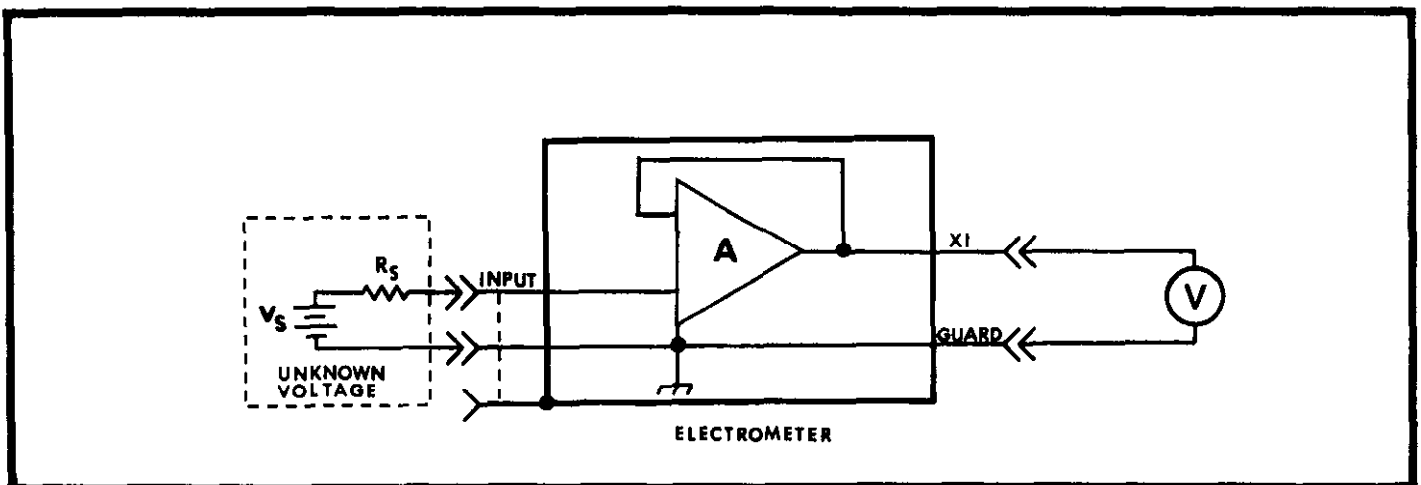

FIGURE 7. Use of X1 Output for Measurement from a High Resistance Source.
b) Connect an accurate voltmeter such as a 0.01% differential voltmeter between the X1 Output and the GUARD Terminal as shown in Figure 7.